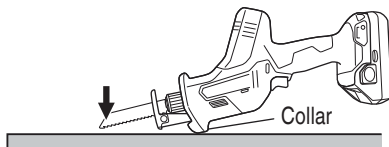

Fig. 24
- (1) Press the base against the material, keeping the tip of the blade away from the material when you pull the trigger switch. (Fig. 24).